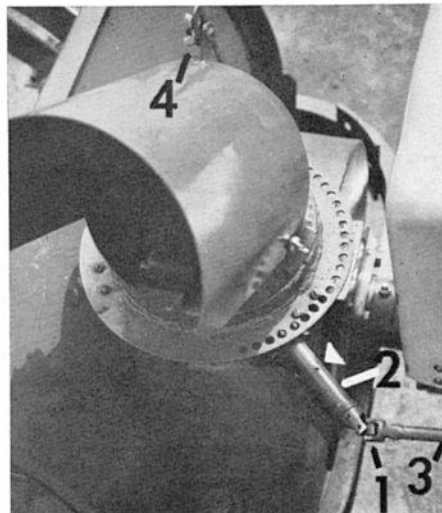

Figure 31
Use light oil as required for the Cog Shaft, pouring through the hole in the Cog Shaft Housing, arrow in Figure 31.
1. Attach the Universal Joint, 1 in Figure 31, to the Cog Shaft, 2 in Figure 31, using the roll pin provided.
2. Attach the Universal Joint to the Control Rod, 3 in Figure 31, using the roll pin provided.
Loosen the wing nut, 4 in Figure 31, to adjust the Discharge Spout vertically. See the caution on this page.